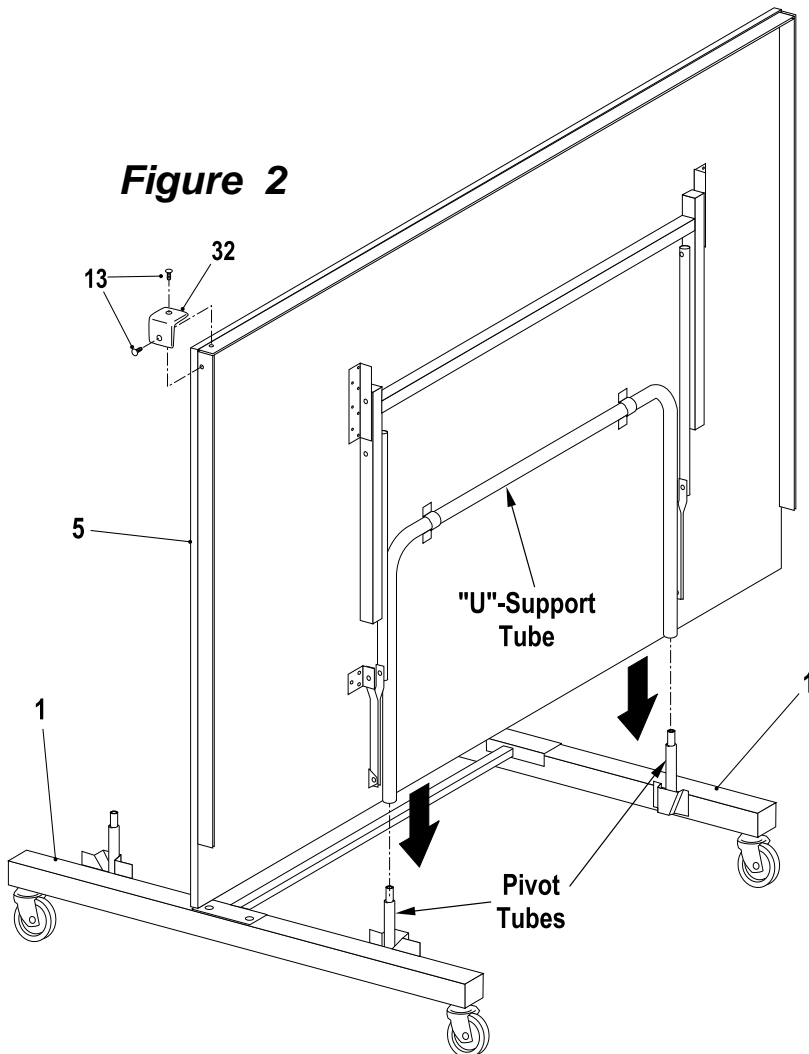

**Figure 1**
1. Attach cross tube (#2) to caster rails (#1) as shown in Figure 1. Turn caster rail as shown with pivot tubes toward inside, and attach tube (#2) with four carriage bolts (#3) and four wing nuts (#4). Tighten wing nuts securely.